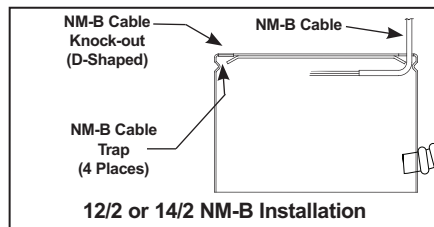

Figure 7
**12/2 or 14/2 Non-Metallic Sheathed Cable (Type NM-B).** Remove appropriate D-shaped cable knock-out(s). Insert NM-B cable through cable trap and make a 90° L-shaped bend in cable as shown (Fig. 7).